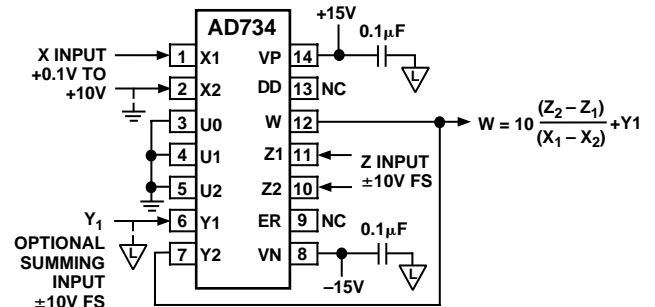

Figure 8. Standard (AD534) Divider Connection
the AD734 can be operated using the standard (AD534) divider connections (Figure 8), when the negative feedback path is established via the Y_2 input. Substituting W for Y_2 in Equation (2), we get
Figure 8 shows the connections for the standard (AD534) divider mode. Feedback from the output, W, is now taken to the Y2 (inverting) input, which, provided that the X-input is positive, establishes a negative feedback path. Y1 should normally be connected to the ground associated with the load circuit, but may optionally be used to sum a further signal to the output. If desired, the polarity of the Y-input connections can be reversed, with W connected to Y1 and Y2 used as the optional summation input. In this case, either the polarity of the X-input connections must be reversed, or the X-input voltage must be negative.